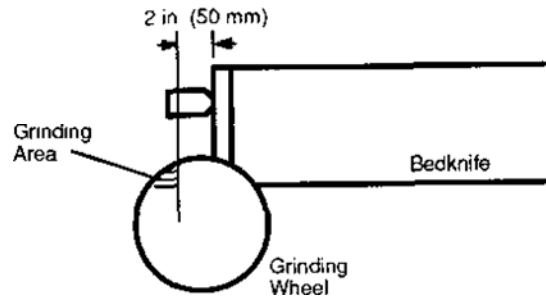

FIG. 40
**NOTE:** The area of the grinding wheel which contacts the bedknife is on the left side of the motor. The area of the wheel which doesn't contact will still be over the bedknife. See FIG. 40. (When you go to the right end of the Grinder, the wheel traverses completely off the bedknife.)